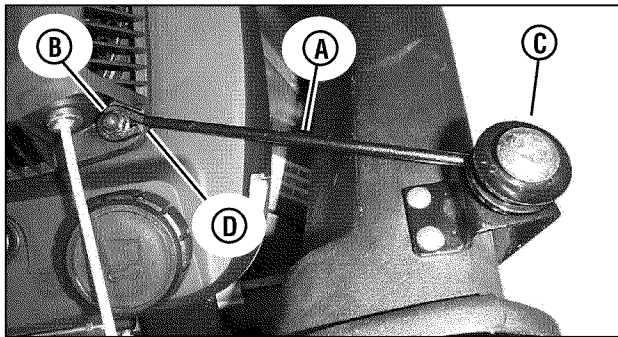

Figure 12: Installing the adapter standoff
4. (Kawasaki engines only) Attach the grass bag adapter standoff (**A, Figure 12**) between the rope guide pulley and the engine recoil:
5. Route the recoil rope around the outside of the rope guide pulley (C, Figure 12).